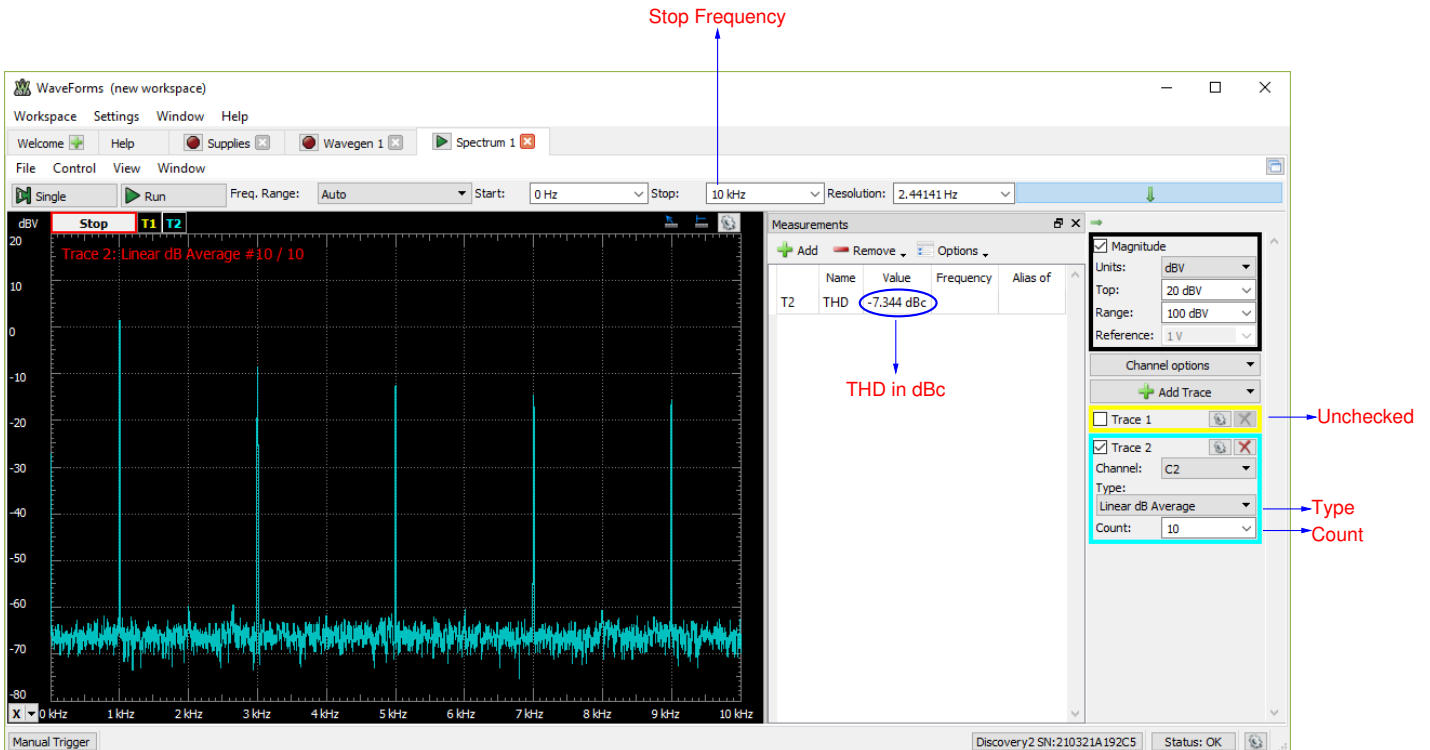

Figure 16: Spectrum Window
- Output spectrum should appear on the Spectrum window as shown in Fig. 16